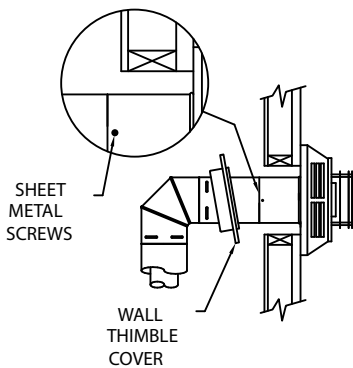

Figure 8
(Fig. 8).
Step 6. Slide the appliance and vent assembly towards the wall, carefully inserting the Pipe Section into the cap assembly. It is important that the Pipe Section extends into the back of the Termination Cap with a minimum overlap of 1-1/4 inches. Use the two sheet metal screws provided to secure the Pipe Section to the back of the Termination Cap. The Wall Thimble Cover will cover the screw heads **(Fig. 8)**.